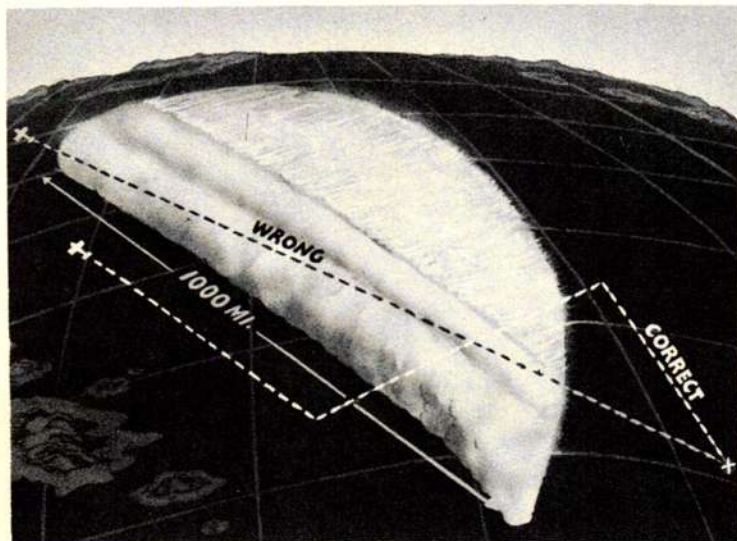

Figure 4-6-2. Correct and incorrect flight paths through a warm front.
- You must fly at right angles to the front (fig 4-6-2).